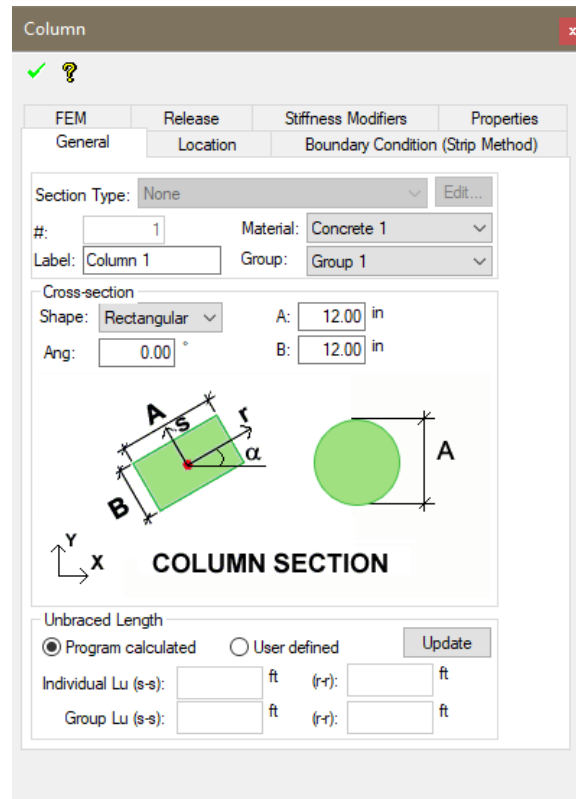

Figure 2-29
- Click on the *Item's Properties* icon  of the *Properties* panel. This will open up the *Column* properties window as shown in **FIGURE 2-29**.
- With the column creation tool still active click on the *Item Properties* icon  of the **Properties** panel. This will open up the *Column* properties window as shown in **FIGURE 2-29**.